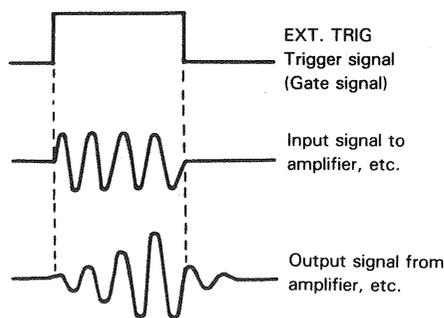

Fig. 7
When the SOURCE selection is in EXT, the input signal at the EXT. TRIG INPUT (20) jack becomes the trigger. This signal must have a time or frequency relationship to the signal being observed to synchronize the display. External sync is preferred for waveform observation in many applications. For example, Fig. 7 shows that the sweep circuit is driven by the gate signal when the gate signal in the burst signal is applied to the EXT. TRIG INPUT jack.